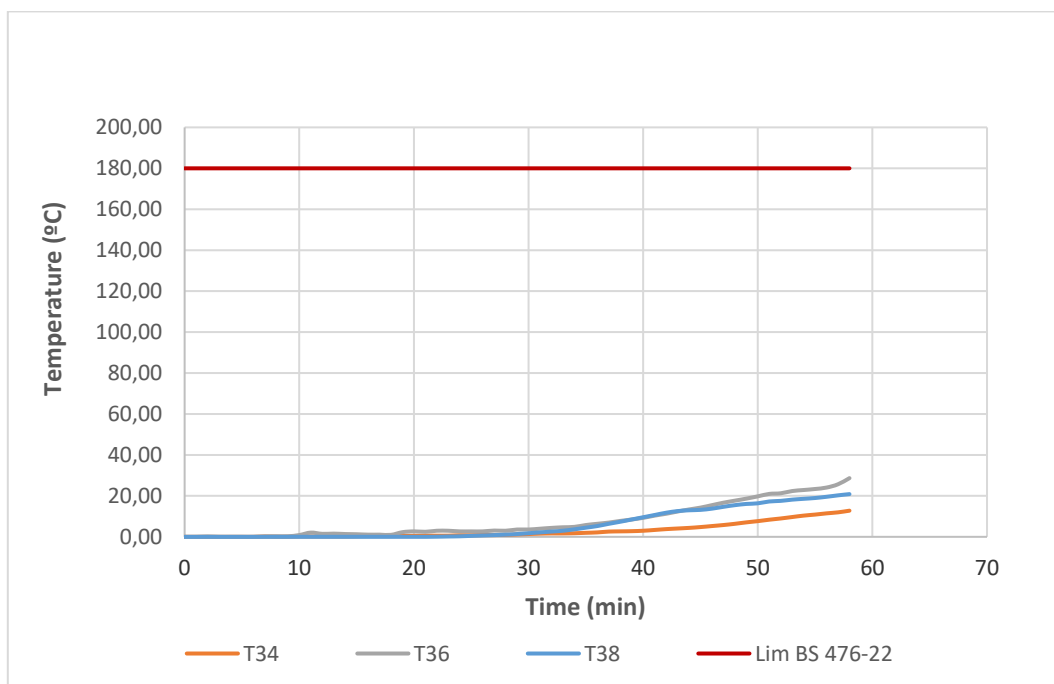

FIGURE 9
- 6.7 Figure 9 shows the temperatures of the thermocouple placed on the unexposed side to fire of the frame of sample 7521-3.